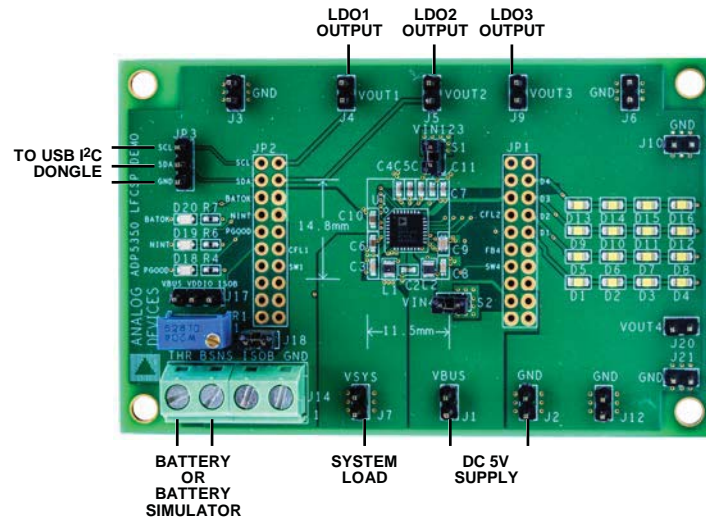

Figure 15. ADP5350CP-EVALZ LFCSP Board Connection Diagram
2. Connect a 5 V power supply between the VBUS and GND screw terminals or connect a charged battery between ISOB and GND (see Figure 15).